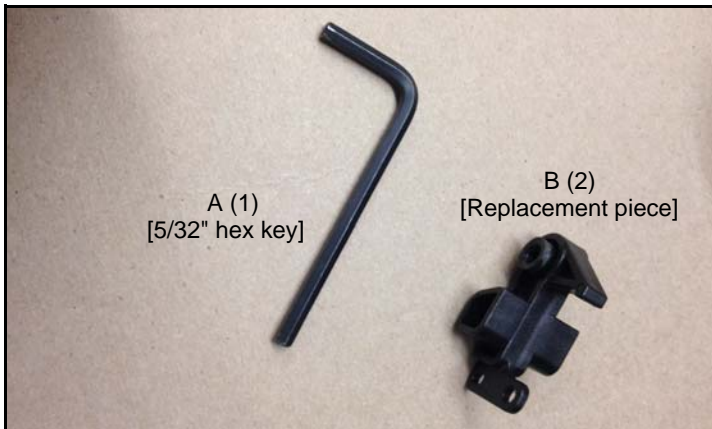

Figure 2
1. Unpack carton and verify contents (See Figure 2)